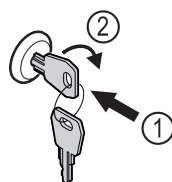

Fig. 175 Example illustration
- Insert key Fig. 175 (1).
- Turn key clockwise by 90° Fig. 175 (2).